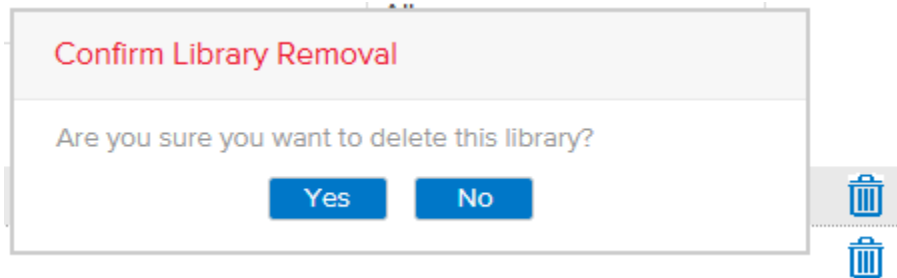

Figure 44 - Confirm Library Deletion
- b. To confirm the library removal, click Yes on the pop-up alert message (Refer to Figure 44).